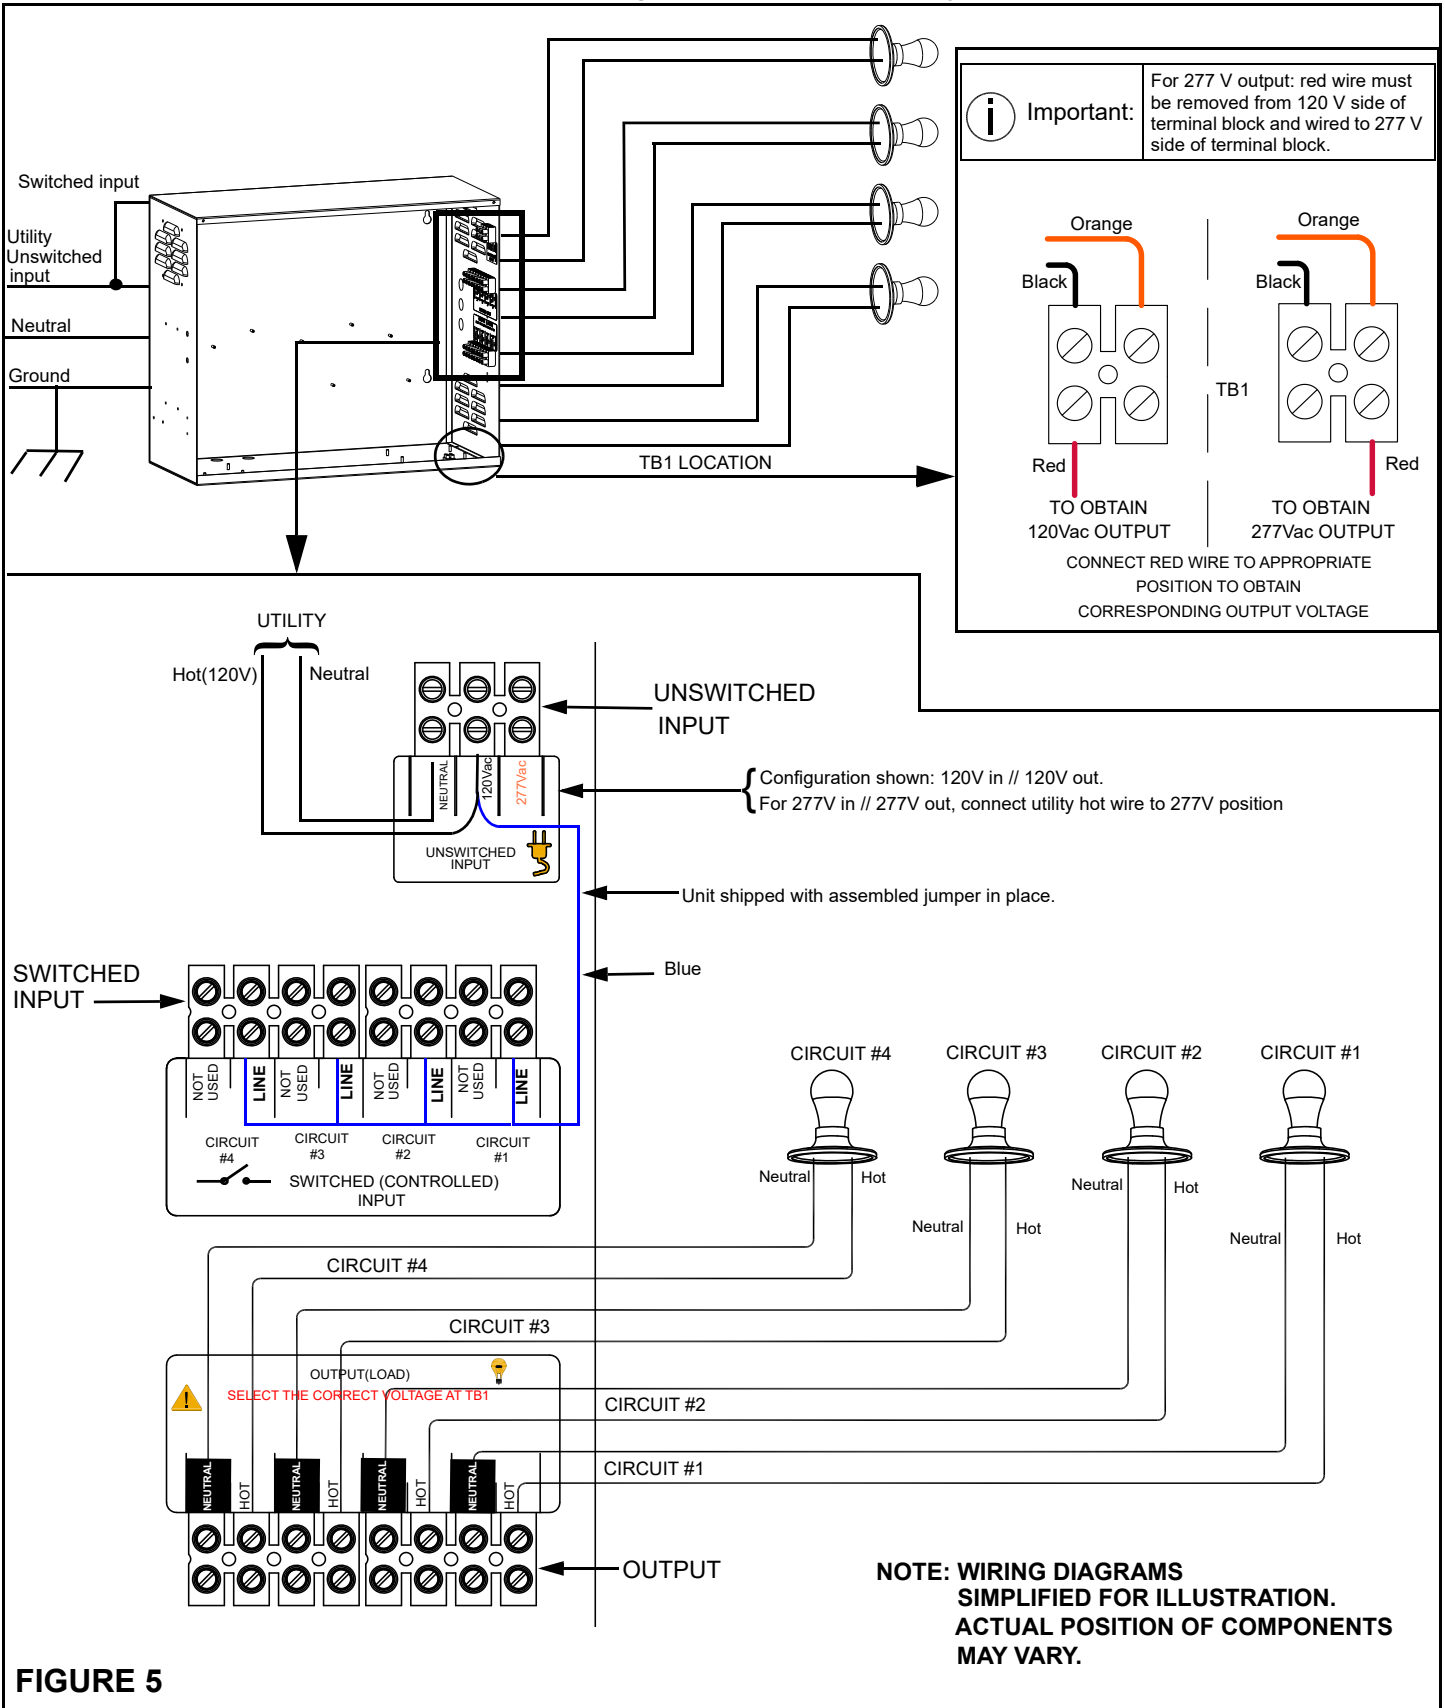

FIGURE 5
- a. **Normally-On Operation** (Refer to Figure 5 for wiring details) - Fixtures remain illuminated in normal AC and emergency modes.
Refer to the applicable wiring diagram in figures 5, 6, 7 and 8 to connect the utility AC power and external control devices (where applicable). Perform all wiring procedures in accordance with applicable codes. The unit is shipped configured to operate in Normally-On mode by using an assembled jumper. This jumper can be removed to configure the SWITCHED INPUTS as desired.
- c. Identify output terminal block (refer to figures 5, 6, 7 and 8).